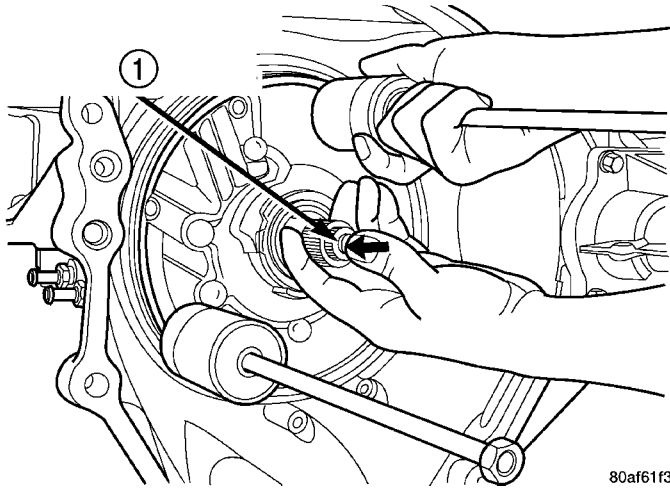
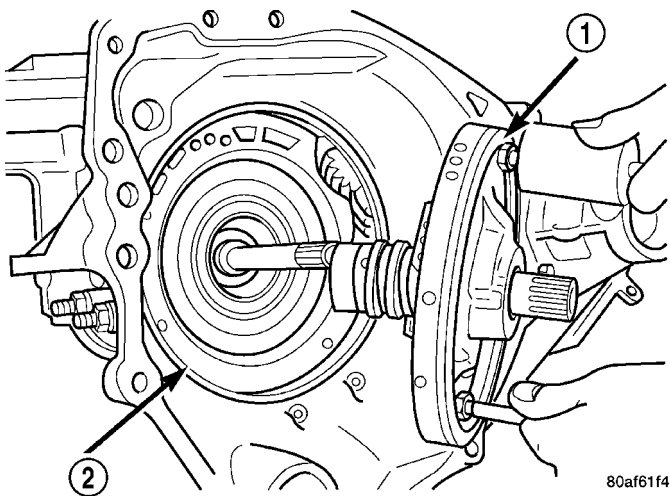

Fig. 30 Remove Oil Pump
Fig. 31 Oil Pump Removed
(17) Remove oil pump assembly (Fig. 30) (Fig. 31).